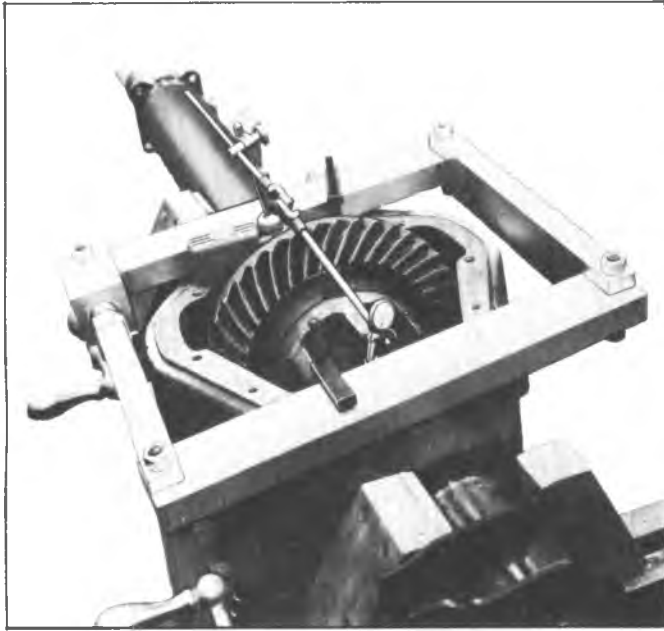

Fig. 15F—Tool J-24385 Mounted on Carrier
7. Using spreader Tool J-24385 and dial indicator as shown in figure 15F, spread carrier a maximum of .020".